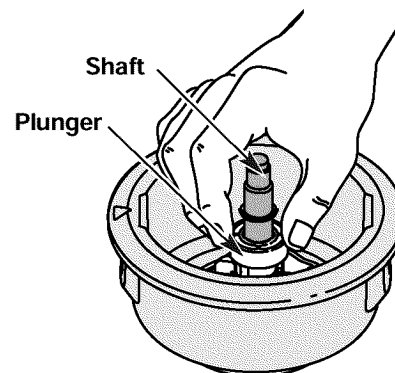

Fig. 26
5. Clean the shaft and the inner surface of the outer spool. To clean the shaft underneath the plunger, press down on the plunger (Fig. 26). Remove any dirt or debris from the shaft.